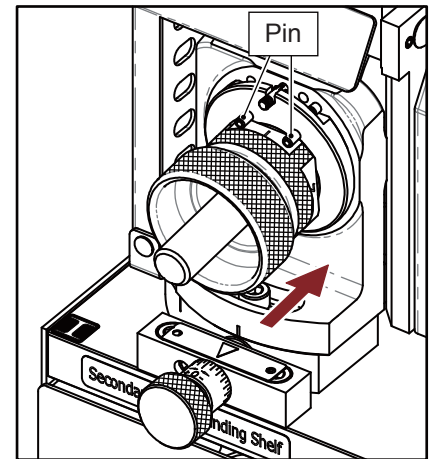

Fig. 12-1
1. 4 Flute Secondary Relief Grinding (I) (Fig. 12-1)
- ① Insert the Chuck set into Shelf (I), align Slot No.1 of the clamping nut with the two pins on the shelf, gently push the Chuck set until the grinding noise stops.
- ② Take the Chuck set out, turn it to grind the Slot No.2, Slot No.3 and Slot No.4 in the same way.